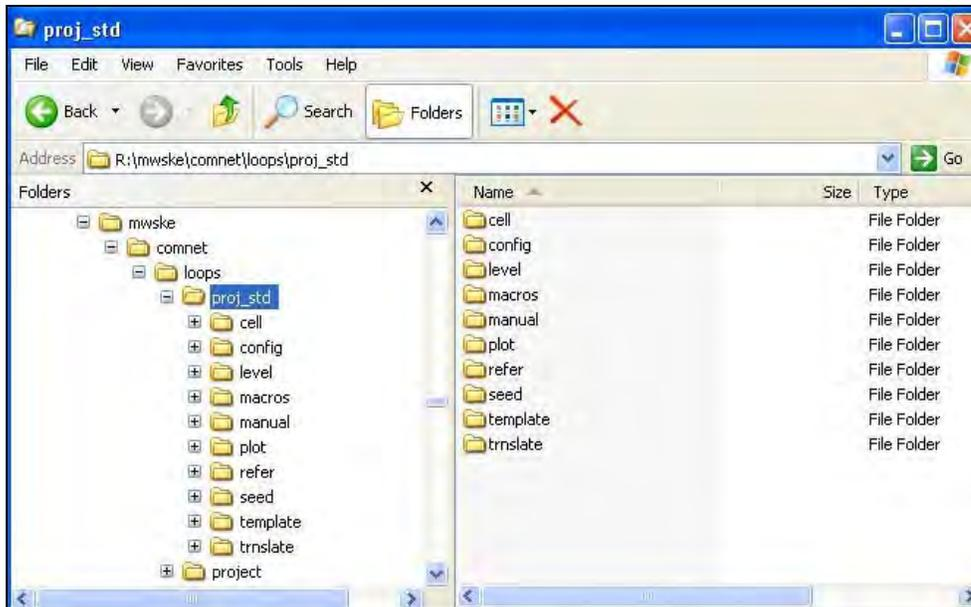

Figure 1
1. From the Comnet CD, copy the “mwske” folder (with all sub folders) to the root of your local hard drive. When complete the directory tree should look like one shown in Figure 1. Do not insert or delete any folders in the path.
**Note: The drive letter shown in Figure 1 is for example only. Use the drive letter that matches your particular drive set up.**